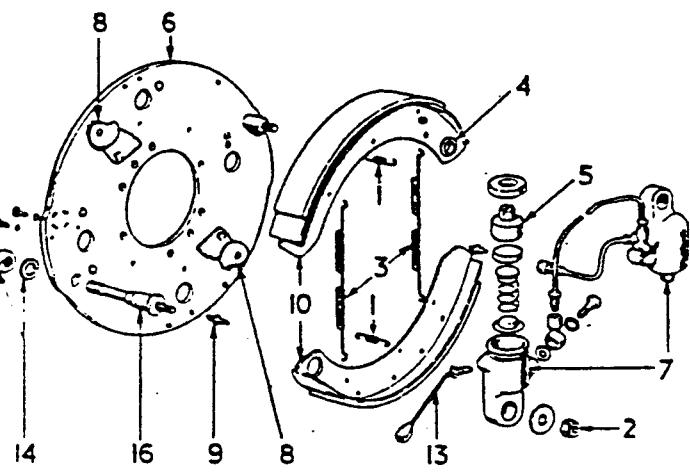

FIG. 17. HYDRAULIC BRAKES
**Fitting replacement brake shoes to the hydraulic leading shoe brake (Fig. 17).** Always fit Girling "Factory lined" replacement shoes.